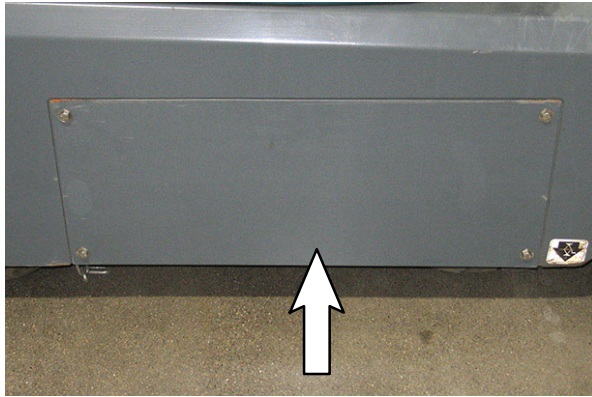

FIG. 2
4. Remove the brush stop plate from the machine. Set the brush stop plate and all hardware aside. (Fig. 2)